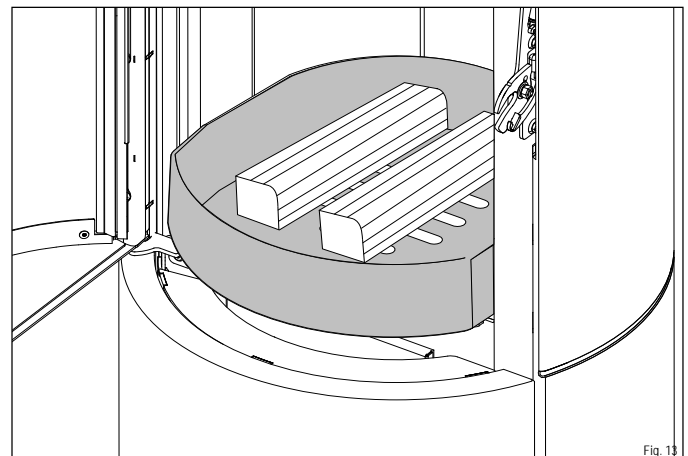

Fig. 13
- ▶ Add two logs (4) with a total weight of 1.4 kg in the middle of the firebox (face forward).
- ▶ **Keep approx. 5 cm from the firebox glass (Fig. 13).**